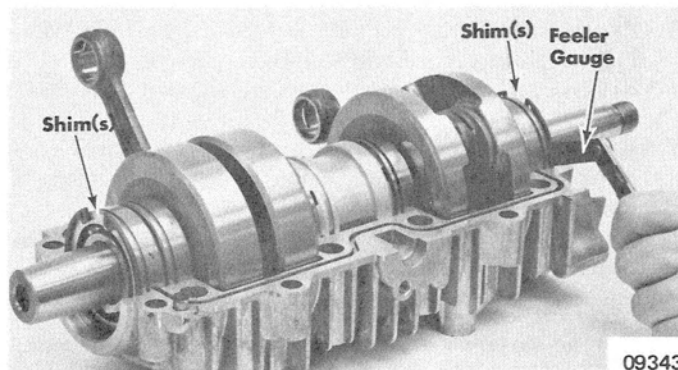

Figure 2. Checking Crankshaft End Play
5. Use feeler gauge to measure crankshaft end play. Measure end play between outer crankshaft bearing and shims on rewind end. (Figure 2) Crankshaft end play of .006"-.012" (.15mm-.30mm) is permissible. Add shim(s) to decrease amount of end play or remove shim(s) to increase amount of end play.
7. Remove snap ring and shim(s) from rewind side of crankcase. (Figure 2)
8. Remove snap ring and shim(s) from PTO side of crankcase. (Figure 2)